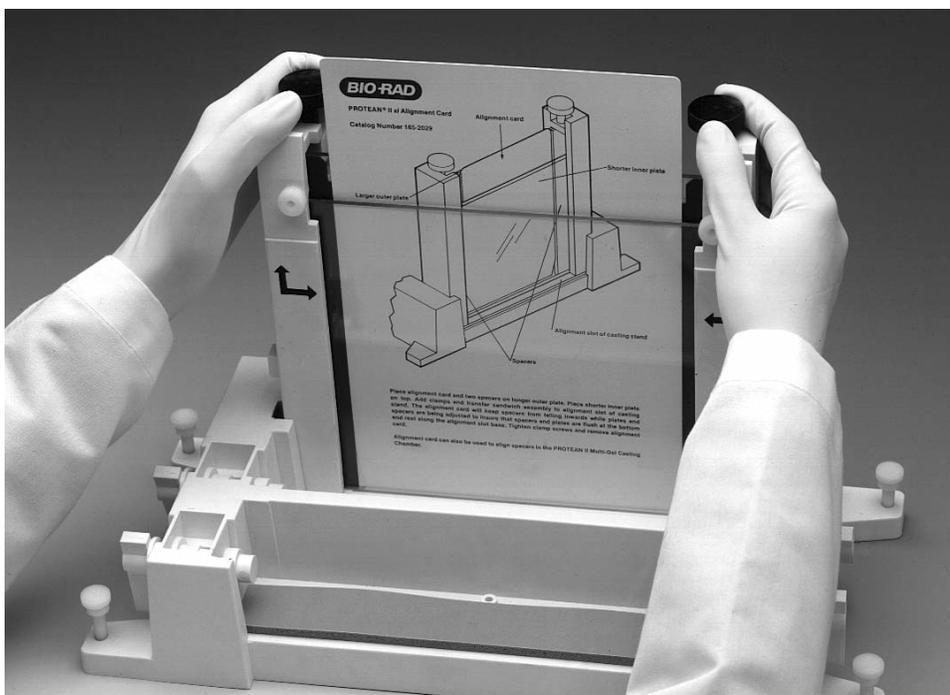

Fig. 4.19. Aligning spacers in the sandwich assembly.
5. Place the sandwich assembly in the alignment slot (the slot without cams) of the casting stand with the short glass plate forward (Figure 4.19). Loosen the sandwich clamps and insert an alignment card to keep the spacers parallel to the clamps.
- Align the plates and spacers by simultaneously pushing inward on both clamps at the locating arrows while pushing down on the spacers with your thumbs. Tighten both clamps just enough to hold the sandwich in place. Pushing inward on both clamps at the locating arrows will insure that the spacers and glass plates are flush against the sides of the clamps (Figure 4.19).